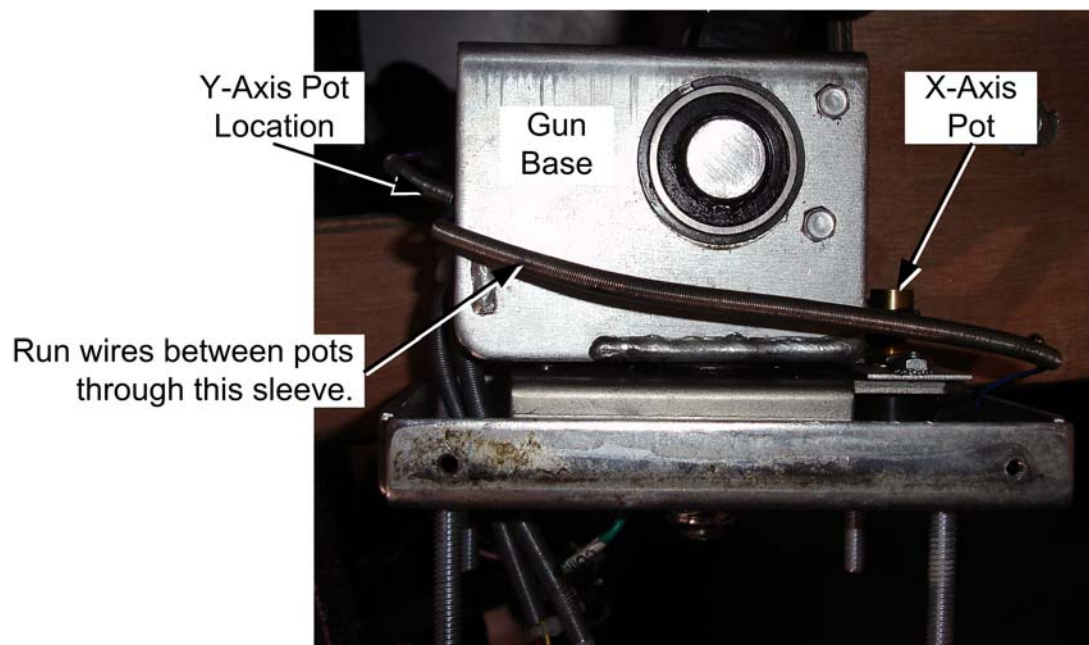

Figure 5. Route New Wires through Sleeving
4. Run the two lengths of wire through the sleeve shown in Figure 5 to reach the X-Axis pot. Trim excess length but make sure there is still some slack in the wires.